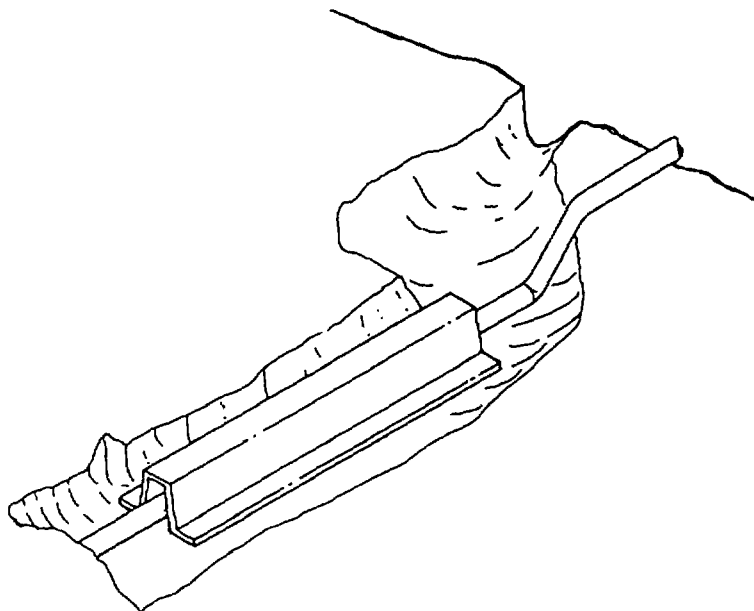

Figure 1-12. Road Crossing Guards
(15) **ROAD CROSSING GUARDS (Figure 1-12).** Protects hoseline buried beneath a road from damage.